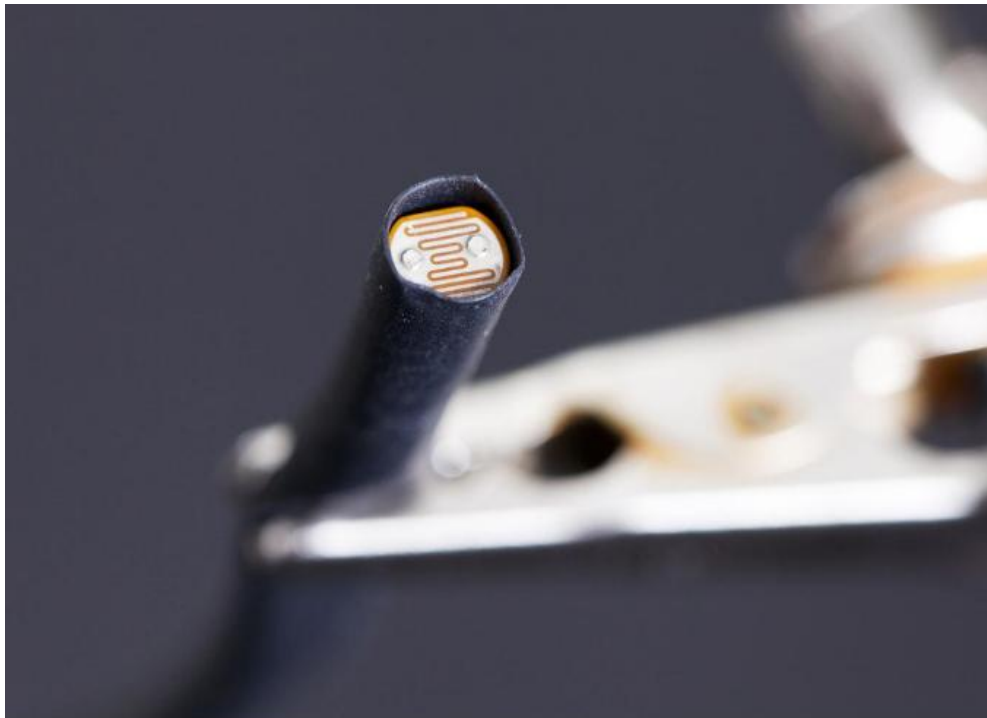

Figure 7-11. Preventing light from reaching the sensor
- There's a very easy solution for this. Take a piece of heat-shrink tubing and make a hood for the sensor, as shown in Figure 7-11.